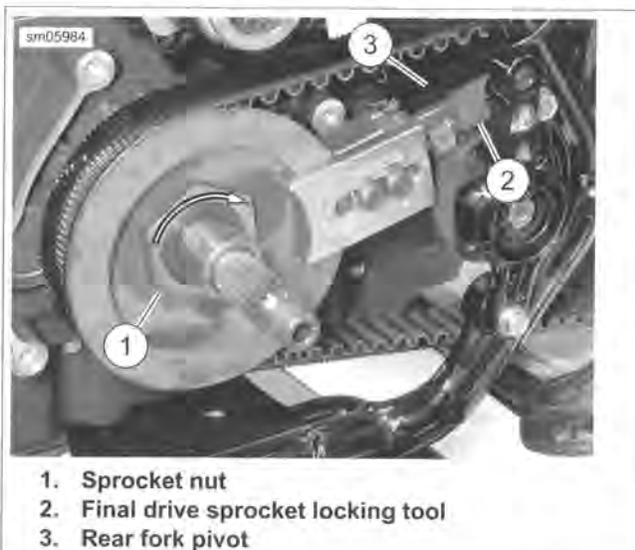

Figure 5-42. Sprocket Nut Installation
- See Figure 5-42. Lock transmission sprocket with the FINAL DRIVE SPROCKET LOCKING TOOL (Part No. HD-46282A) (2). The locking tool must rest against the rear fork pivot (3).